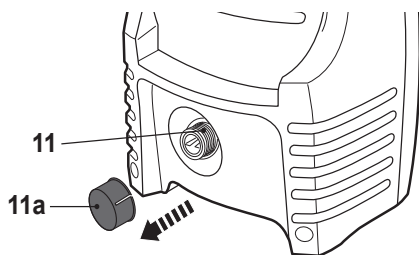

Fig. 11
- > Remove the cap (11a) from the water inlet (11) (Fig. 11).